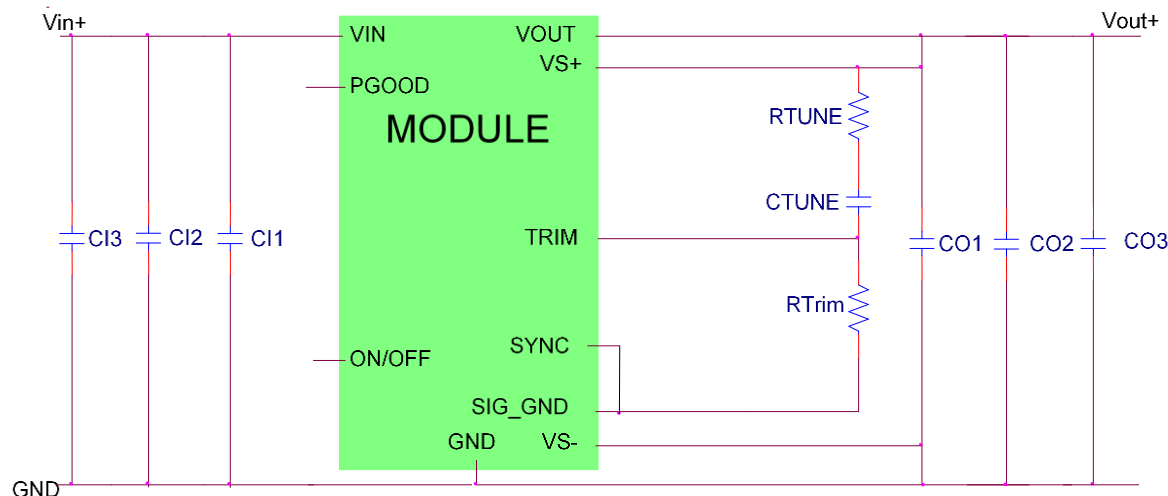

Figure 7. Typical Application Circuit of the IND072 regulator.
- **Minimize loop area** - To provide the most effective filtering and avoid noise coupling from a regulator to other parts of the circuit, it is recommended that the loop area for both power and signal traces to the regulator be minimized. To minimize input noise, it is necessary to reduce the parasitic inductance of the input loop significantly, by reducing the loop area. Using a high frequency, low ESR and ESL bypass capacitor, close to the regulator module input pins reduces the area of this loop significantly. Figure7 shows a typical application circuit incorporating these recommendations. For reducing high-frequency switching noise at the input and output of the module, 0.047 $\mu$ F (0402), 0.1 $\mu$ F (0402), etc. small package ceramic capacitors (CI1 and CO1 in schematic) should be placed at the input and output of the module. Capacitors used for minimizing the ripple component (CI2, CI3, CO2 & CO3) are termed as bulk capacitors with capacitance needed being in the order of tens or hundreds of  $\mu$ F.